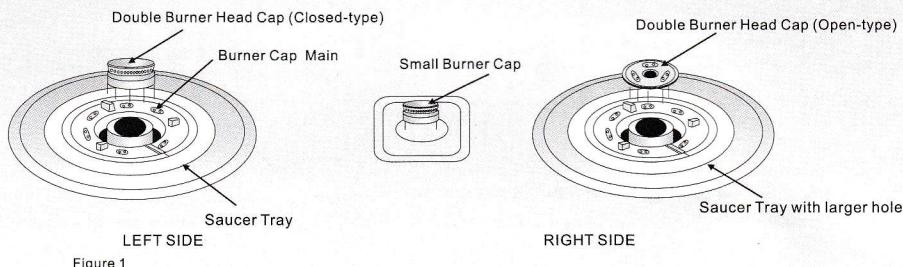

Figure 1
4. Install burner cap main on its place. Place the double burner head-closed type on the left side, open-type on the right side and small one on the middle as shown in Figure 1.